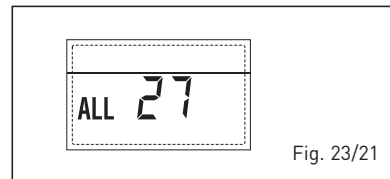

Fig. 23/21
- **COMPATIBILITY INPUT (S3) ERROR ONLY FOR SYSTEM 7 "ALL 28" (fig. 23/22)**